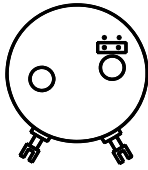

Fig.7: "130°-290° "
The range of the ESM21ex is preset to the range (fig. 7). The range can be reduced, if you can not reach the end value (20mA) at full travel of valve.
- Jumper at bottom for measuring range between 130° and 290° (fig. 7)